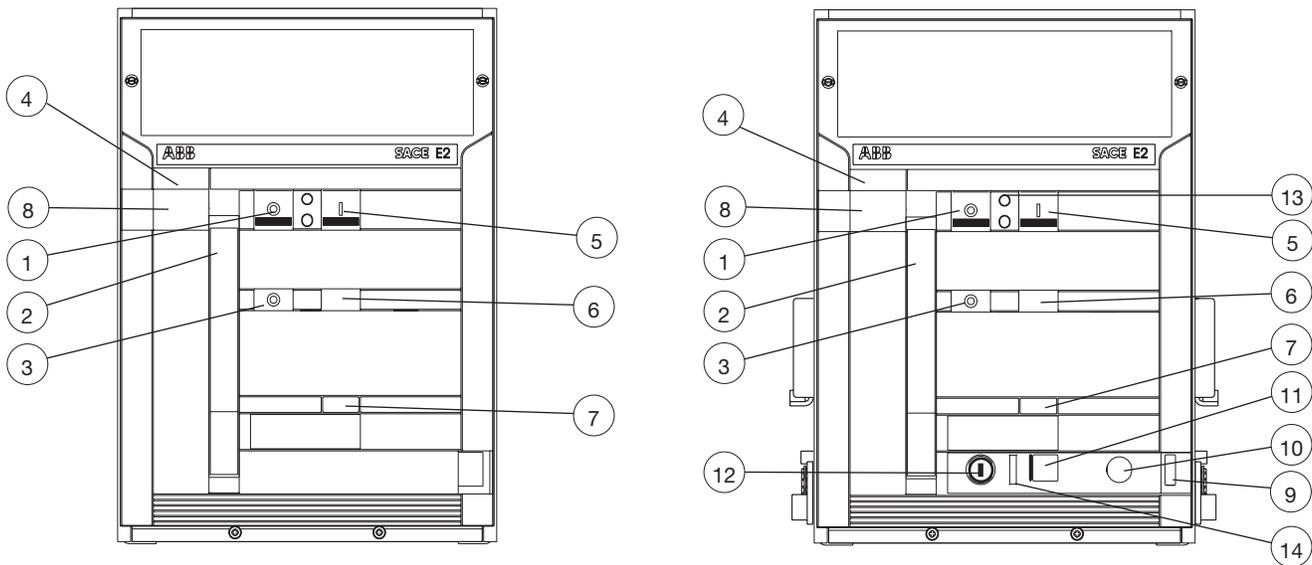

Figure 23.
- **DISCONNECTED:** the moving part is inserted in the fixed part **WITHOUT** any connection between the terminals and **WITHOUT** coupling the sliding contacts for the auxiliary circuits: in this position all electrical operation of the circuit-breaker is prevented. On the front the indicator (9, Figure 23) indicates **DISCONNECTED**. The switchgear compartment door can be closed.
- **TEST ISOLATED:** the moving part is inserted in the fixed part **WITHOUT** any connection between the power terminals, but **WITH** the sliding contacts coupled for the auxiliary circuits. In this position, the circuit-breaker can be operated for the offline tests. The indicator (9, Figure 23) indicates **TEST ISOLATED**.
- **CONNECTED:** the moving part is fully inserted in the fixed part **WITH** the connection of both the power terminals and the sliding contacts for the auxiliary circuits. The circuit-breaker is operational. The indicator (9, Figure 23) indicates **CONNECTED**.